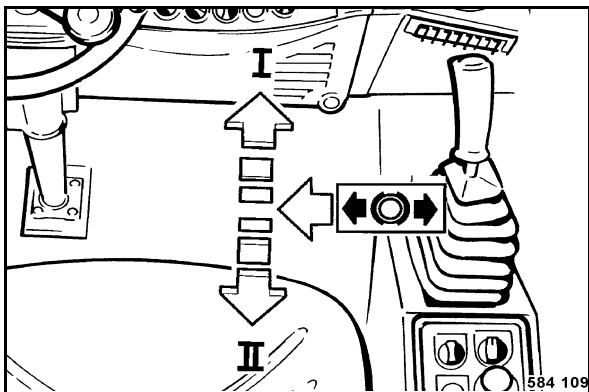

Fig. 171
- Move the travel lever (Fig. 171) forward, backwards and to braking position. Thereby check for function, light movement, clearance and damage.